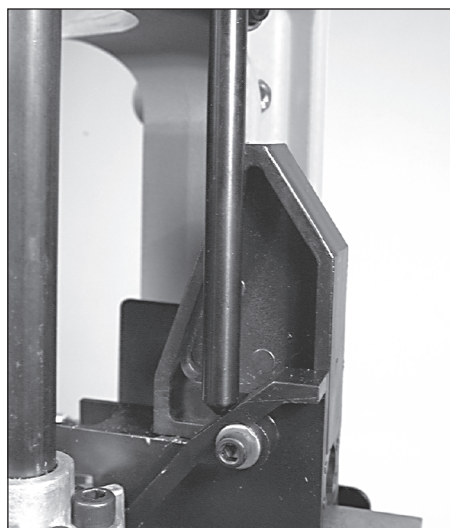

FIG 188
Step 16) Adjusting the camming pin FIG 188 (see previous note):